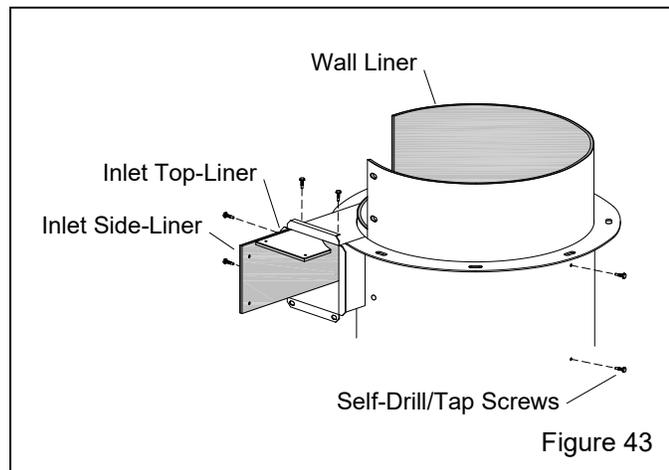

Figure 43
**7.11.11** Remove the screws holding the inlet side liner and inlet top liner, and remove both liners from the reclaimer inlet, as shown in Figure 43.